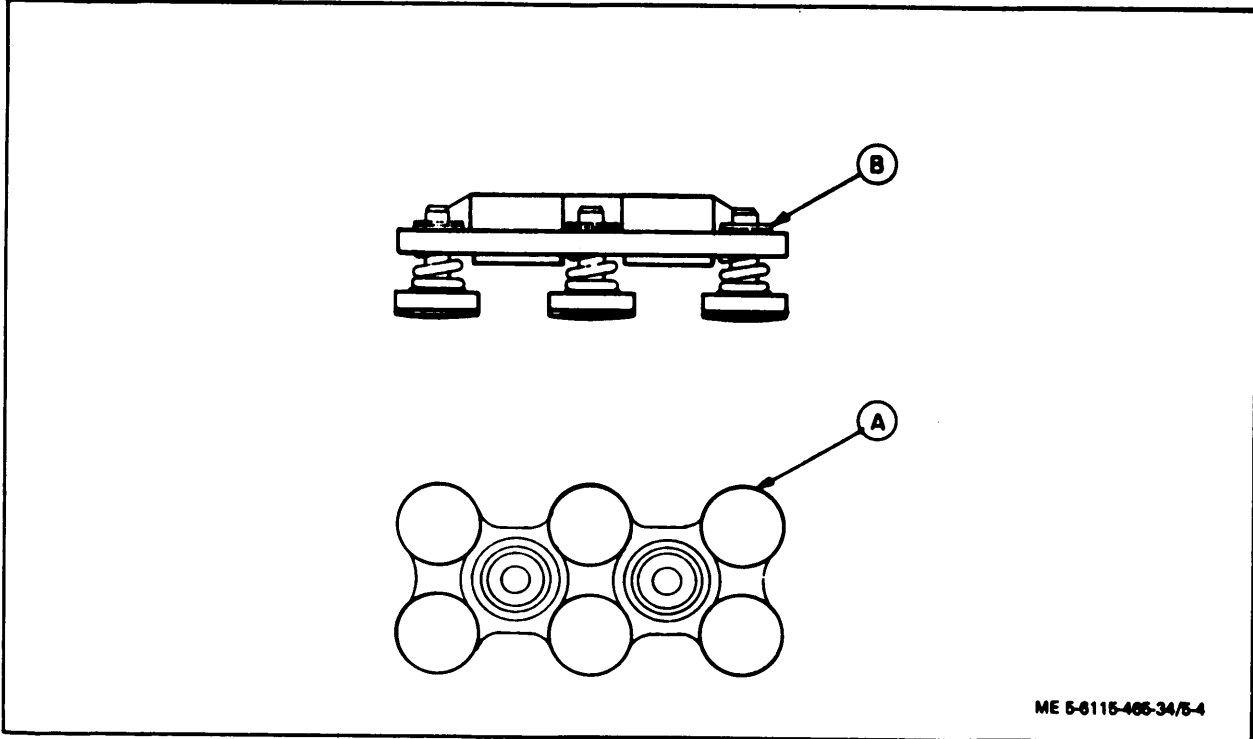

Figure 5-4. Main Contact Preload Check Points
(13) Secure contact assemblies (38) to main base (46) with flat washers (37), lockwashers (36), and nuts (35). Install terminal washers (41), lockwashers (40) and nuts (39).
(14) Install grommets (33), spacers (34), and arc chutes (32).
(15) Install shims (30 and 29), springs (28), bushings (27), and shims (26) onto bridge assemblies (25). Secure bridge assemblies to main contact operator (31) with retaining rings (24).
(16) Check preload of each contact as follows: (See figure 5-4.)